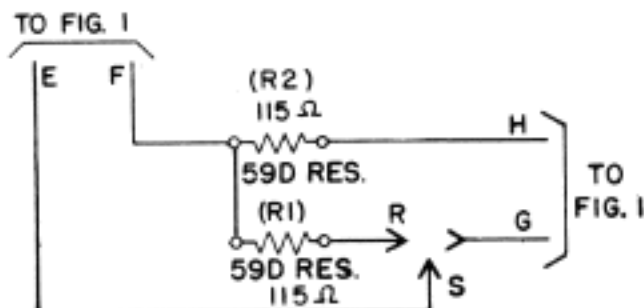

FIG. 9
15. USE FIG. 9 IF SPECIFIED ON DWG. COVERING ANY APPLIQUE CIRCUIT TO BE PROVIDED.